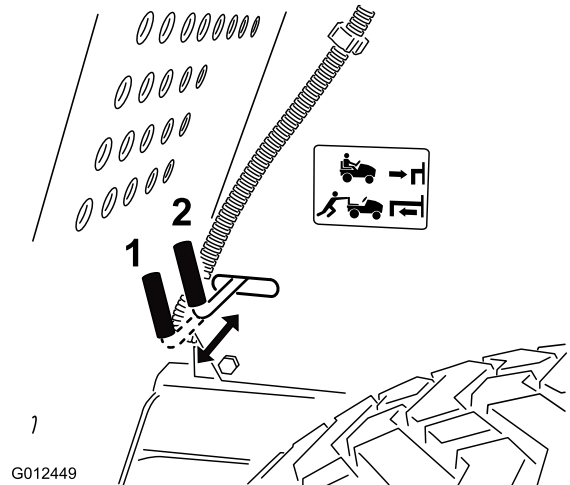

Figure 13
7. Pull the drive control, located behind the right rear wheel, out to the Push position (Figure 13).
2. Push the drive control in to the Operate position (Figure 13) to engage the drive system.